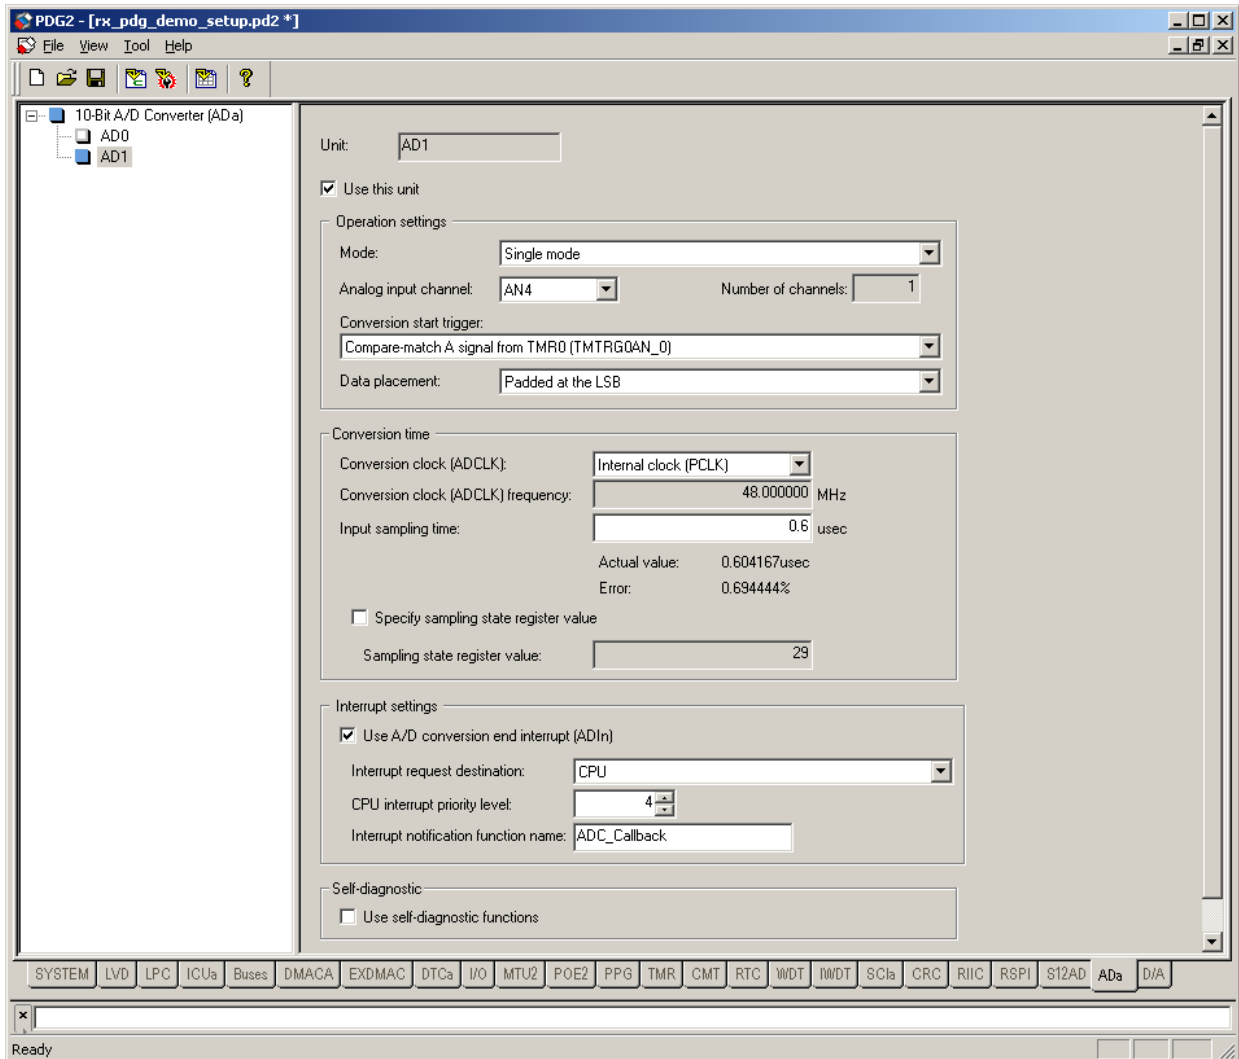

Figure 4-5: Configure AD1 with PDG
Step 4.7 Next, switch to the 'ADa' tab and configure AD1 the same as was done with RPD with the settings below. When done your window should look like Figure 4-5: